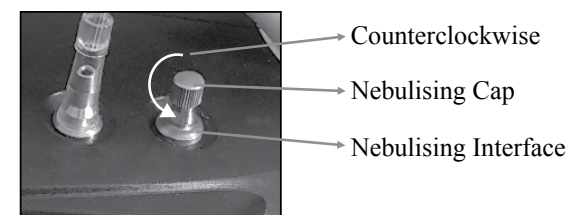

Figure 7: Nebulising
- Pull the nebulising cap upward on the nebulising interface. (Figure 7)